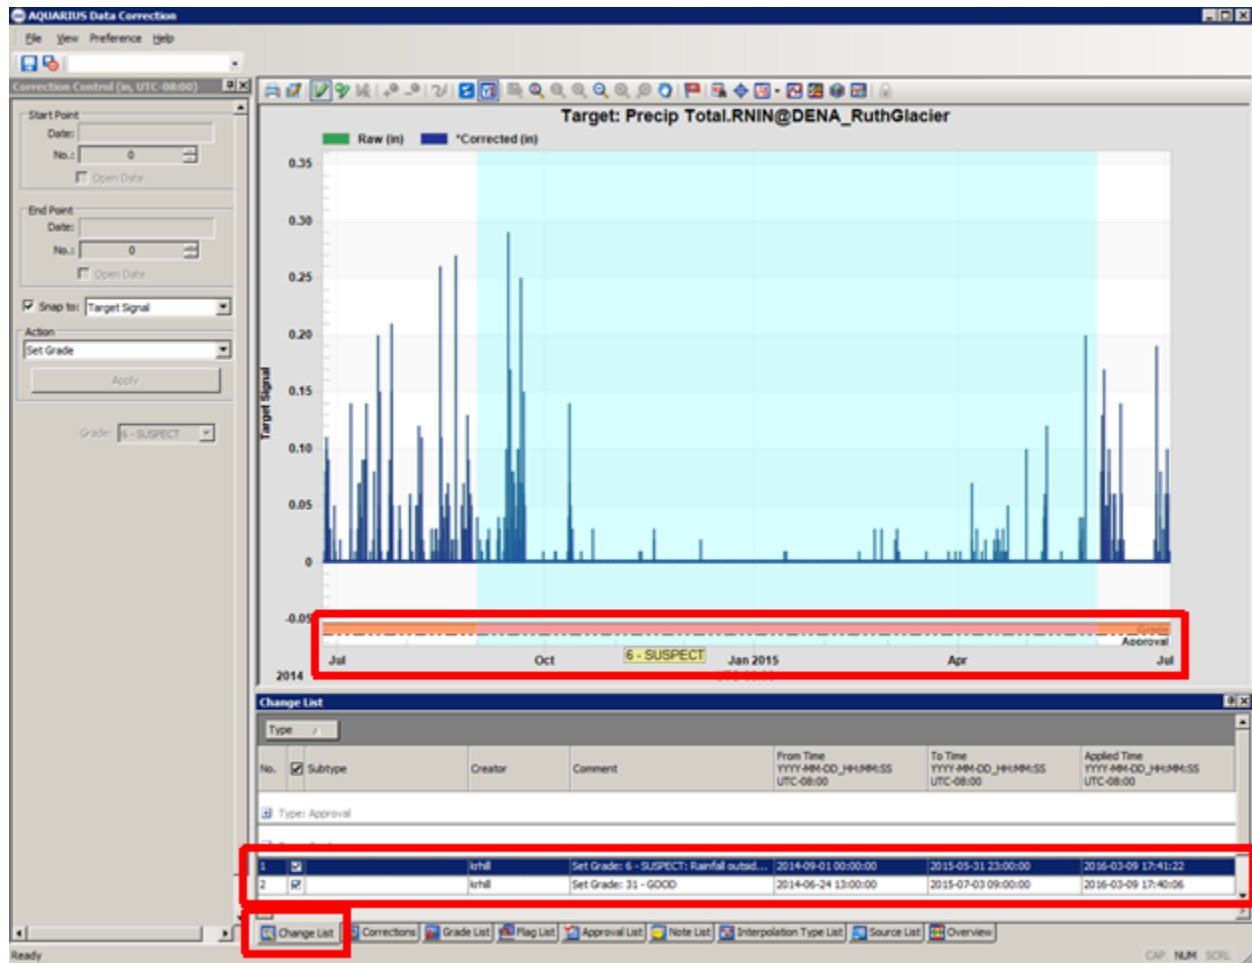

Figure SOP 11-18. Precipitation data quality grading. Data outside the summer period are graded as Suspect. All changes are stored in the software.
- In the data corrections toolbox, select the Flag List tab (Figure SOP 11-18) to view flags that have been automatically placed through the notification thresholds.